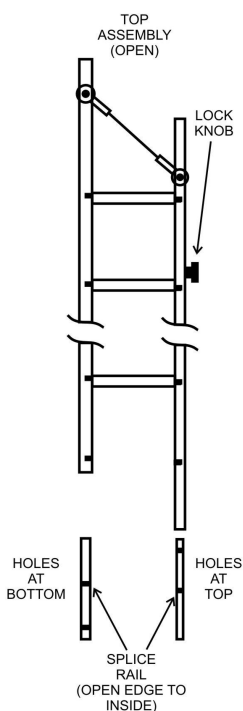

Figure 1.
3. Position the splice rails as shown in *Figure 1* (see next page). Insert each splice rail into the top assembly until the holes in each splice rail are aligned. The openings on each splice rail must face inward towards each other and the holes must be aligned. Hole orientation must be the same as in *Figure 1*.